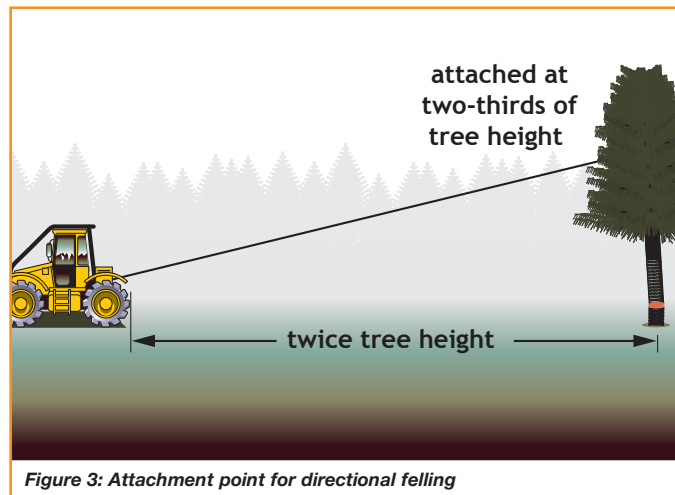

Figure 3: Attachment point for directional felling
- ❑ 24 Before any cutting begins, ensure the winch cable is correctly attached to a suitable strop placed around the trunk at a point high enough to give adequate leverage and retain control of the direction of fall of the tree (see *Figure 3*). If the condition of the tree allows, it is good practice to test the strain before felling.